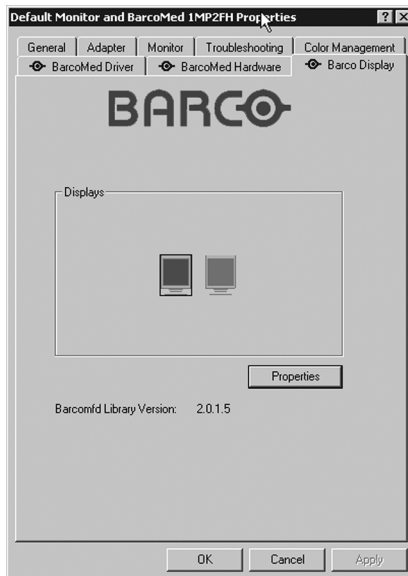

Figure 38: BARCO Display Tab under Windows® 2000 and Windows® XP
2. Under Windows® 2000 and Windows® XP, click on the **“Settings”** tab. Double click on the rectangle that represents the BarcoMed Display you are working with to bring up its properties page. Click on the **“BARCO Display”** tab (figure 38).